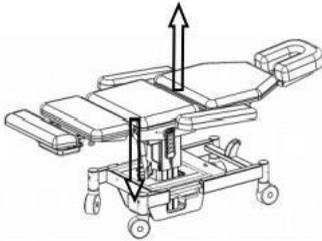

Figure 7
- Press button on line 3 of the hand controller to adjust the height of the table (Figure 7). Adjustable height range is 590mm-890mm.